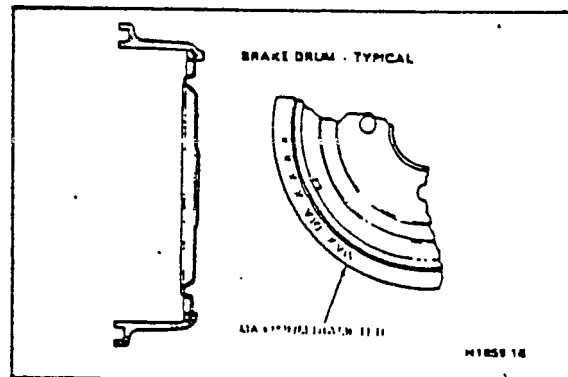

FIG. 21 Location of Brake Drum Maximum Inside Surface Markings
6. Inspect the brake drum and, if necessary, refinish. Refer to Rotunda Catalog Wheel Service, for a description of the various types of brake lathes available. The maximum inside braking surface diameter is shown on each brake drum (Fig. 21). If the maximum inside braking surface diameter shown on the drum is exceeded either by wear or refinishing, the drum must be replaced. Refer to Part 12-02 for refinishing.